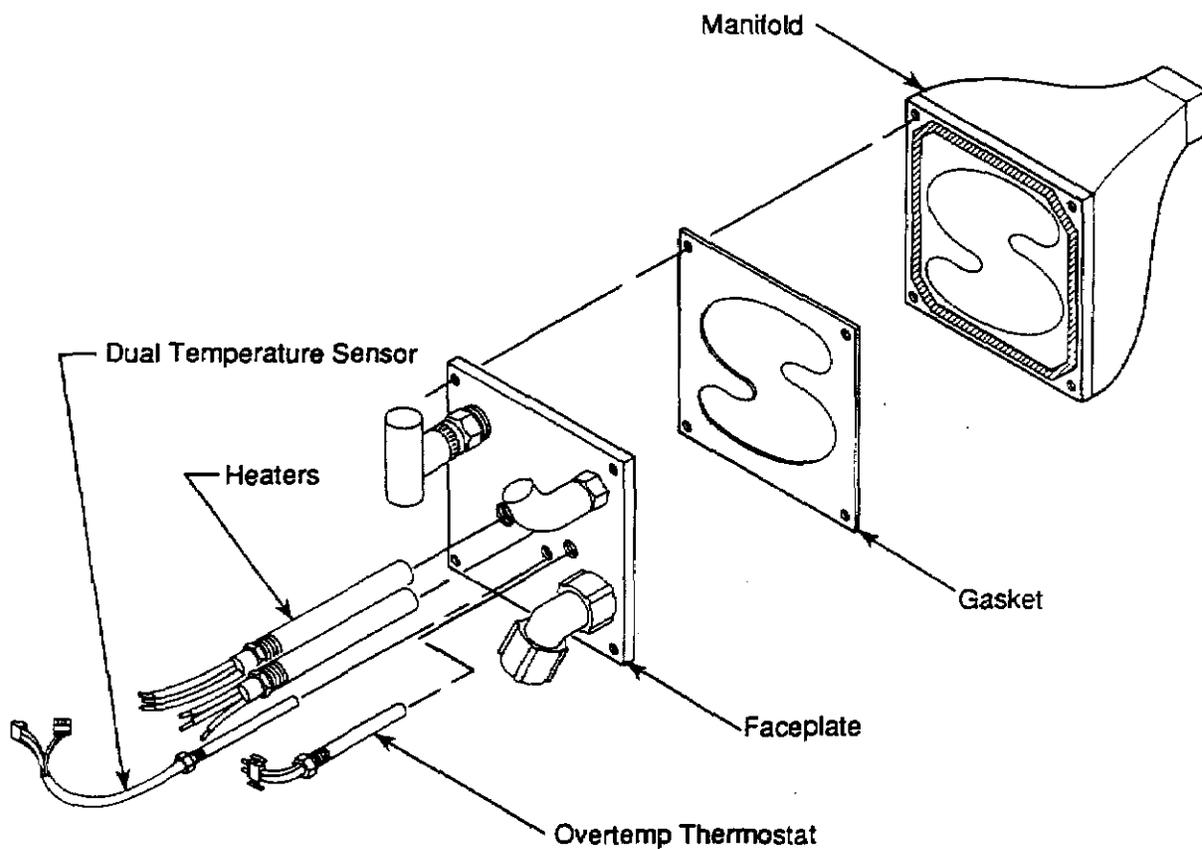

Figure 3-2. Heater Assembly
3.5 Heater Assembly (See figure 3-2.)
3.6 Overtemp Thermostat (See figure 3-2.)
3.7 Dual Temperature Sensor (See figure 3-2.)